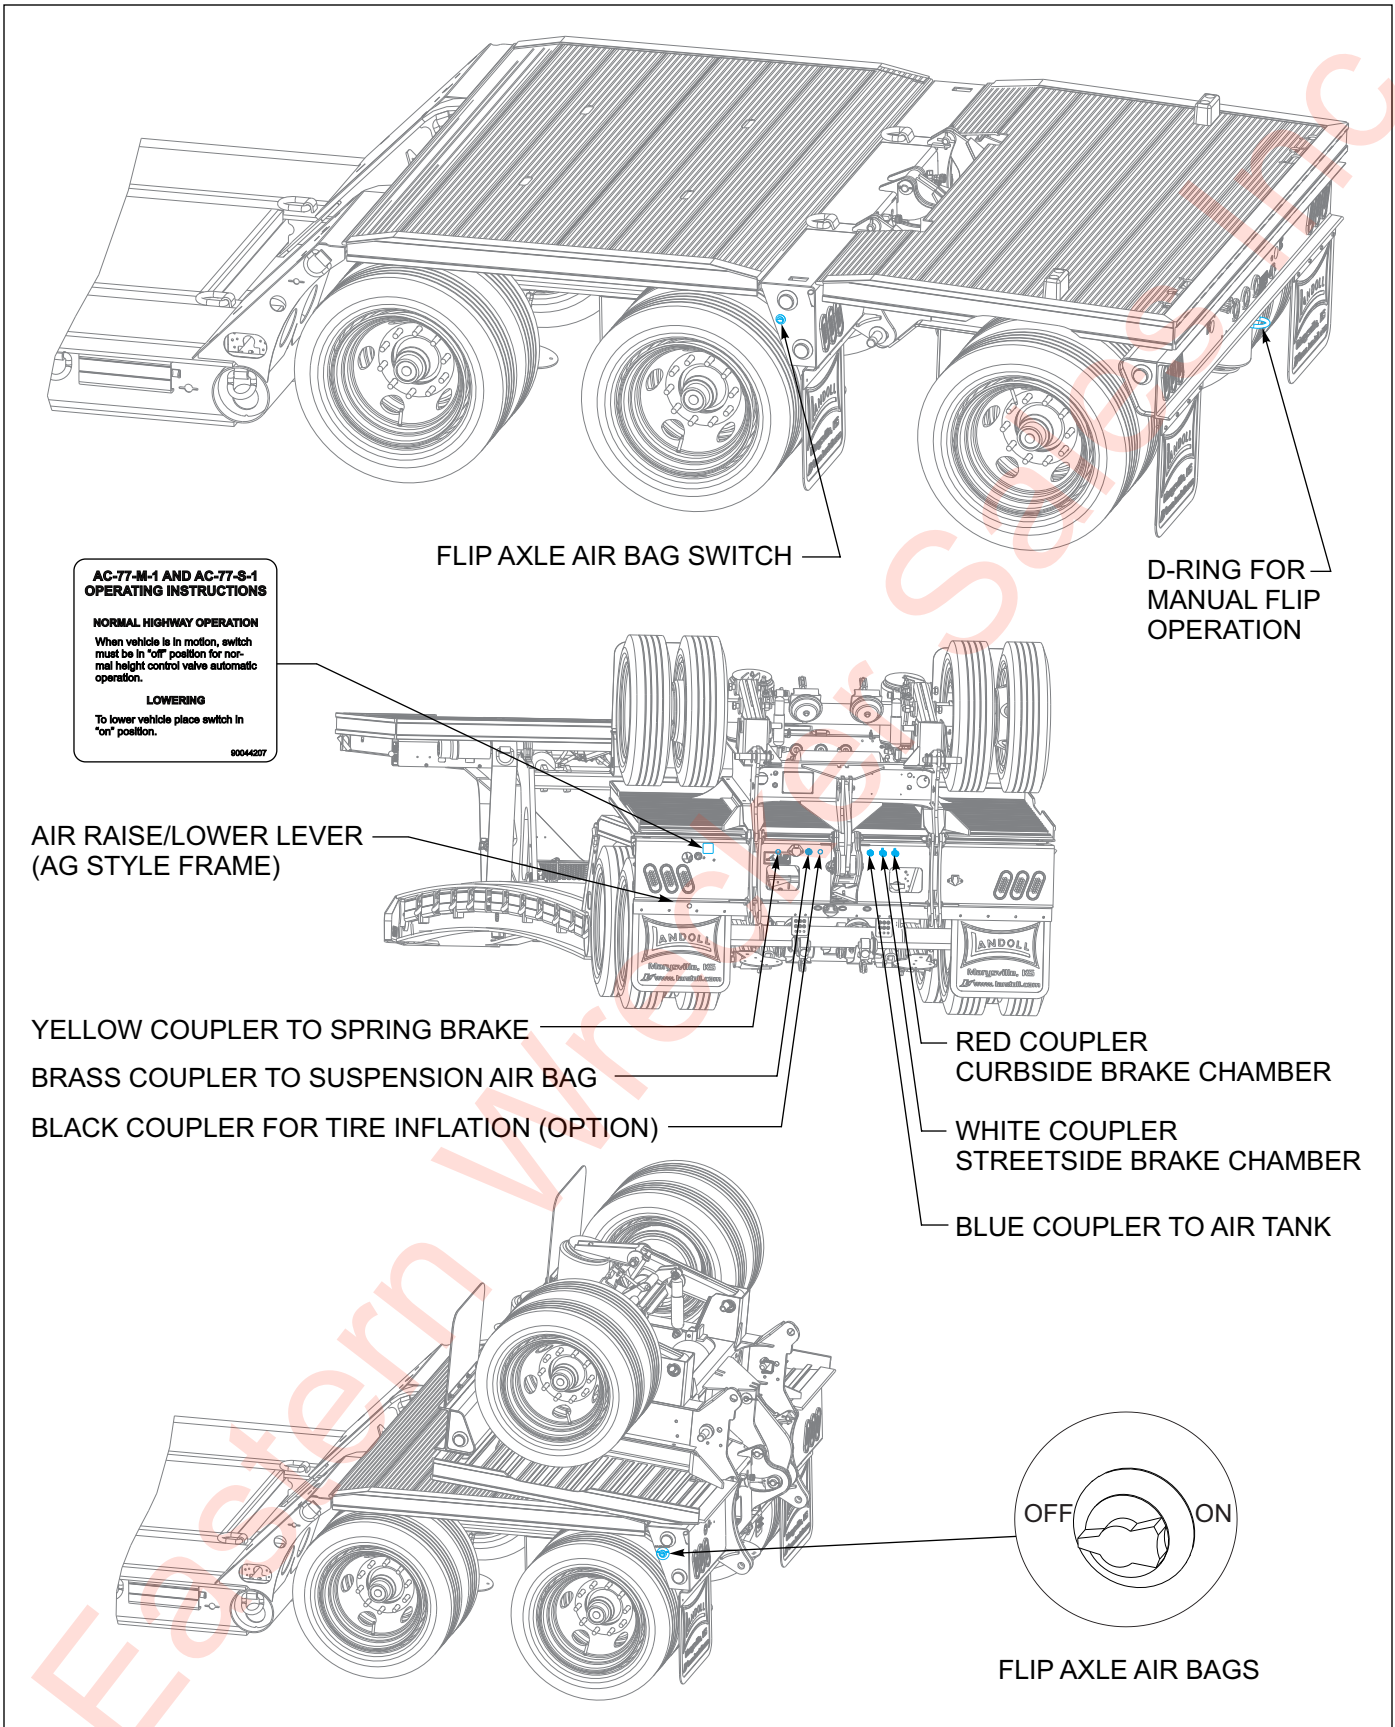

Figure 3-10: Folded and Unfolded Third Axle Flip
1. The manual freespool clutch is operated by pulling lever kickout **(See Figure 3-10.)**